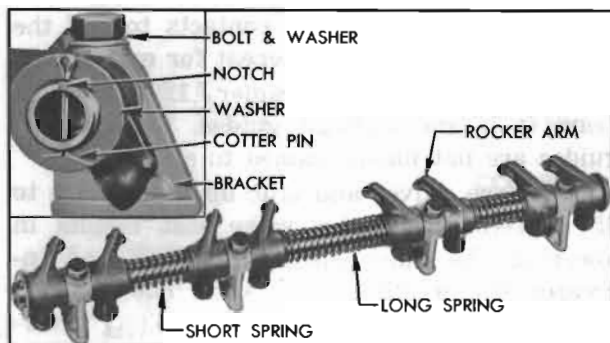

Figure 2-17—Rocker Arm and Shaft Assembly
3. Assemble springs, rocker arms and brackets on shaft as shown in figure 2-17. Note
(4) Install locking plates with exhaust manifold bolts, tighten bolts only to 10-15 ft. lbs. torque, then bend one tab of plate against a flat on each bolt head.
(5) When rocker arm and shaft assembly is installed, make certain that the notch in one end of shaft is upward in line with bracket bolt heads. See figure 2-17.
(6) After installation is completed and engine has been warmed up to operating temperature, recheck cylinder head bolts for 63-73 ft. lbs. torque.